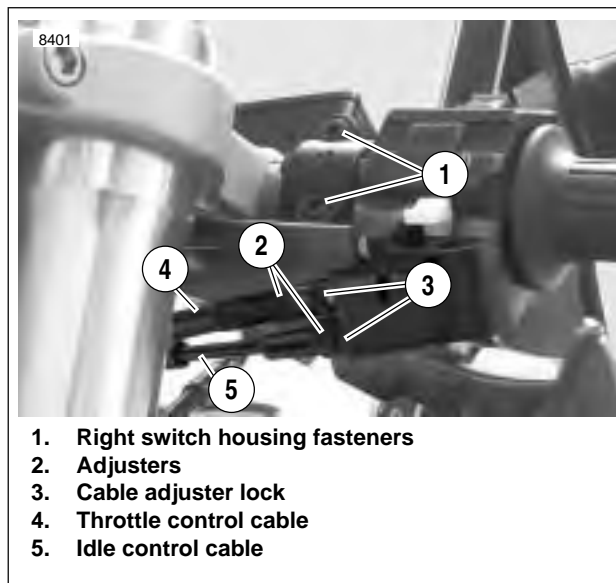
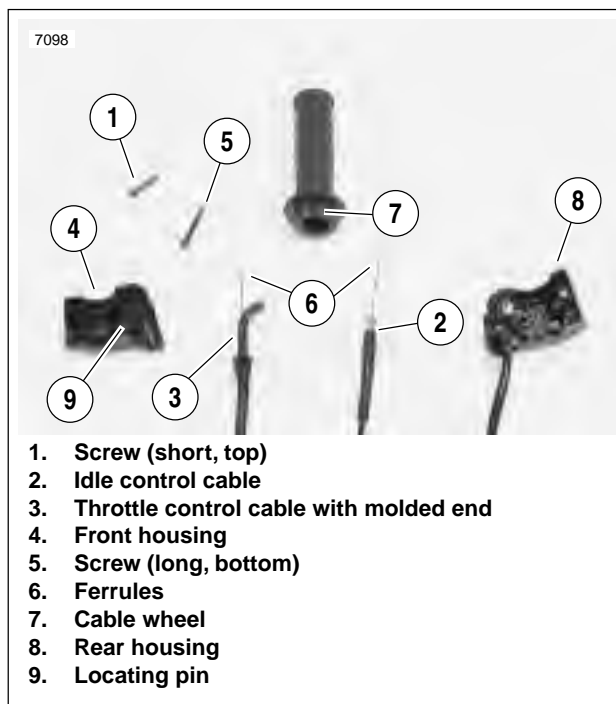

Figure 2-86. Throttle Control Cables
Figure 2-87. Cable Connections
1. See Figure 2-86. Loosen cable adjuster lock (thick disc) (3) on each cable.
2. Turn adjusters (thin disc) (3) in direction which will shorten cable housings to minimum length.
3. Remove fasteners (1) on right switch housing and separate housing from handlebar.
4. See Figure 2-87. Remove cables (2, 3) from notches in front housing (4).
5. Remove ferrules (6) from throttle (7).
3. Install throttle grip and position ferrules (6) into cable wheel (7).
7. See Figure 2-86. Attach rear switch housing and position housings on right handlebar by engaging locating pin on front housing with hole in handlebar. Attach housings with two fasteners, installing longer fastener on bottom. Tighten to 25-33 **in-lbs** (3-4 Nm).